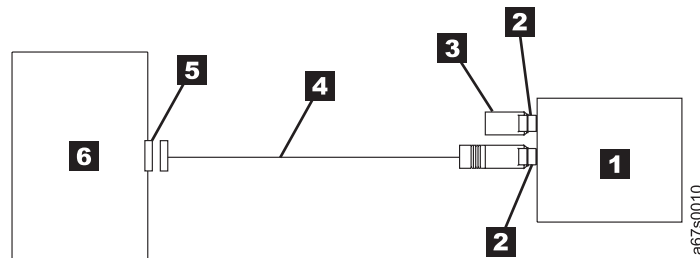

Figure 4. Example of connecting one SCSI device to the server. The view is from the top.
- **If the 3581 Tape Autoloader is the only Device on the SCSI Bus:** connect the SCSI bus cable to the server (see Figure 4).
Note: The autoloader actually consists of two devices: the autoloader controller and the tape drive. For illustration purposes, Figure 4 represents the autoloader as one device.